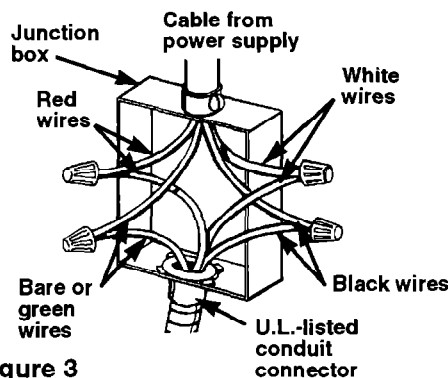

Figure 3
4. Connect the two black wires together; then the two red wires together. See Figure 3.